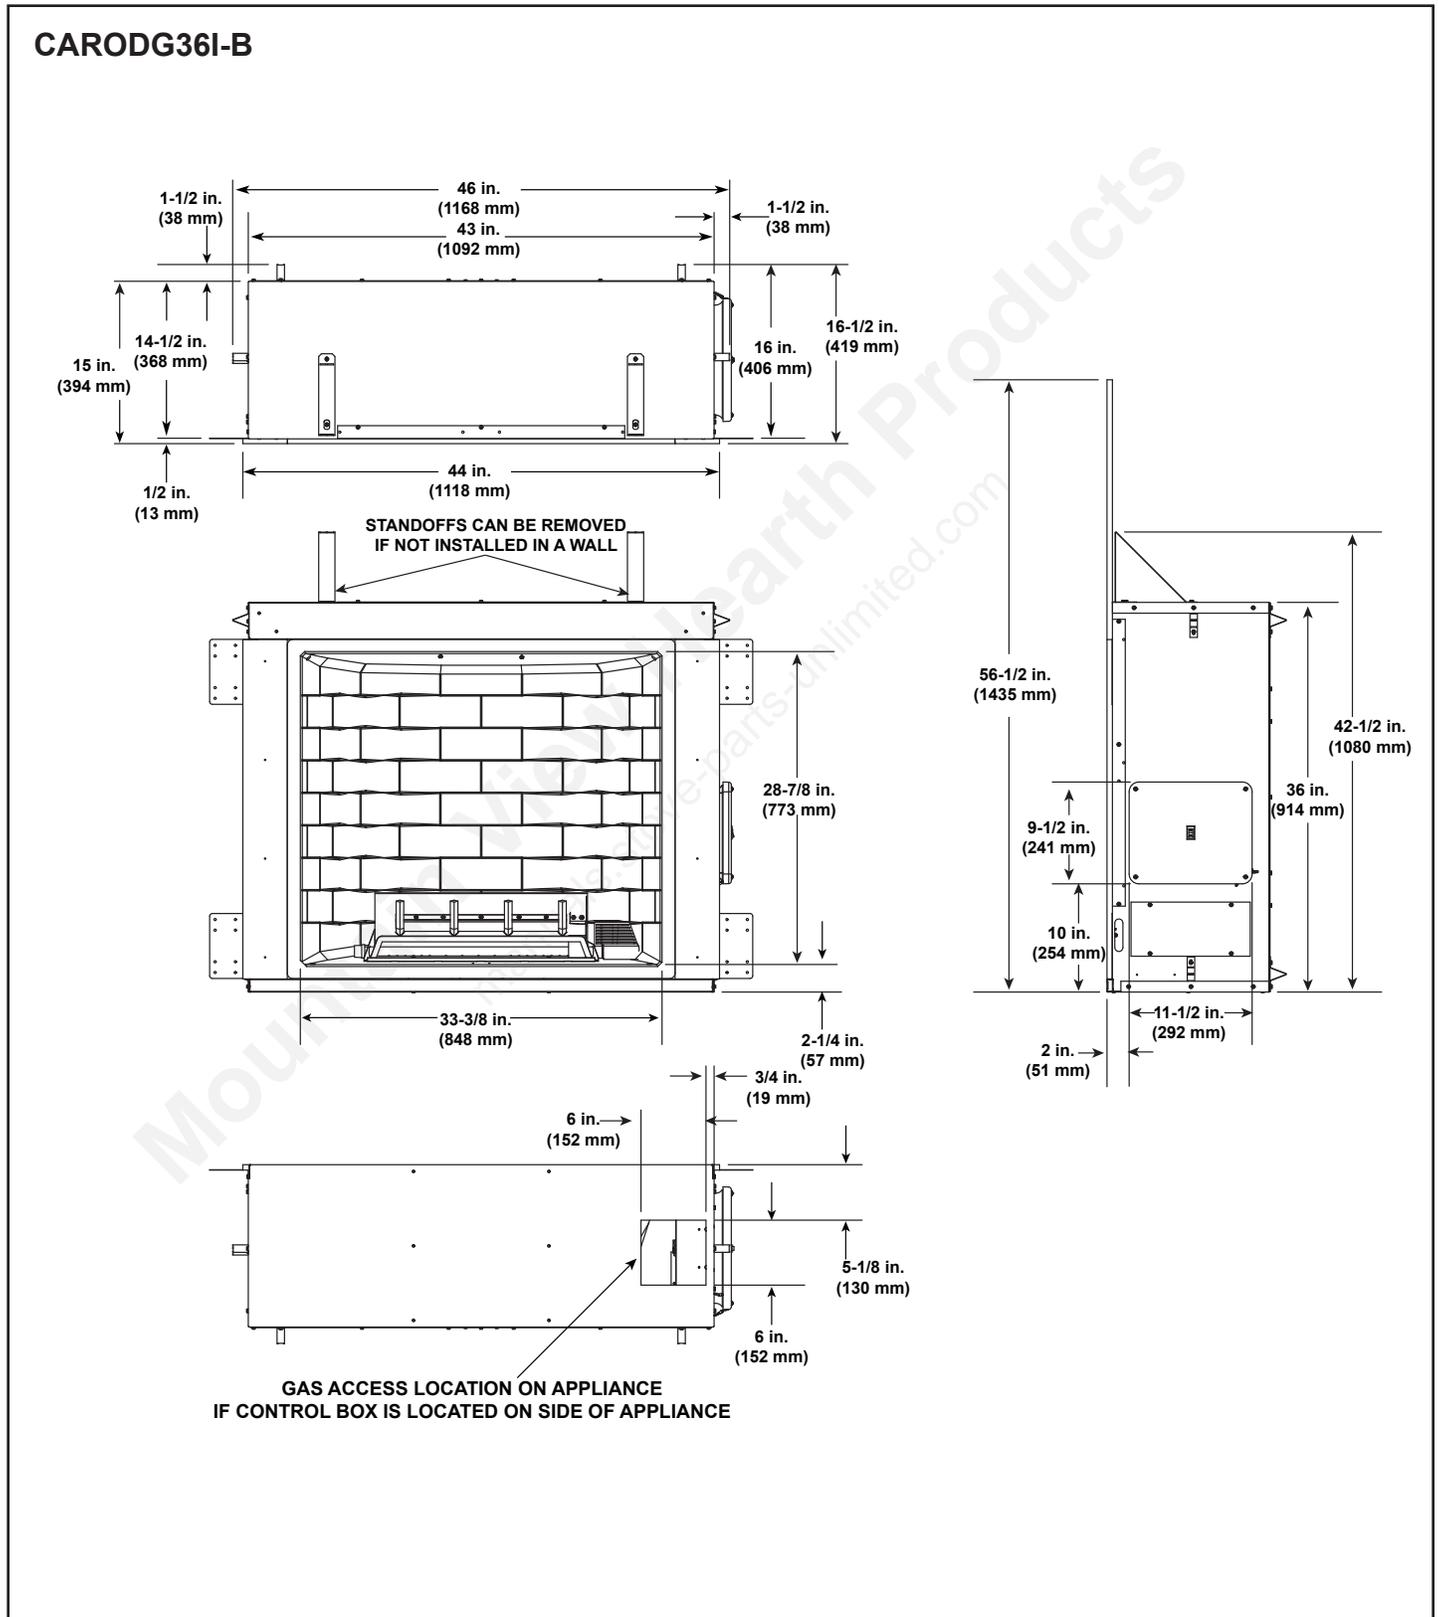

Figure 3.1 Appliance Dimensions - CARODG36I-B
- Flash the perimeter of the appliance, corners and the appliance face in a manner consistent with regional practices as required to prevent water penetration around the appliance or manage water that may penetrate the appliance. See Section 3.D. and Figure 3.1 (CARODG361-B) and 3.2 (CARODG421-B) for more information regarding wall and enclosure construction.
- See Section 3.F. and Figures 3.1 and 3.2 for more information regarding wall and enclosure construction required to prevent moisture penetration into the structure. The appliance will shed moderate amounts of water but is not waterproof.